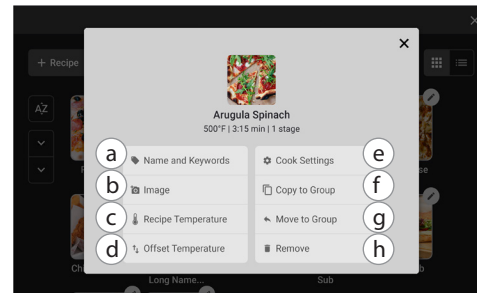

Figure 41: Edit Recipe Options
4. Select an option (Figure 41, above).